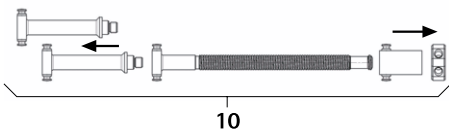

Fig. 6
- Desmontar o fuso distractor 10, ver Fig. 6.